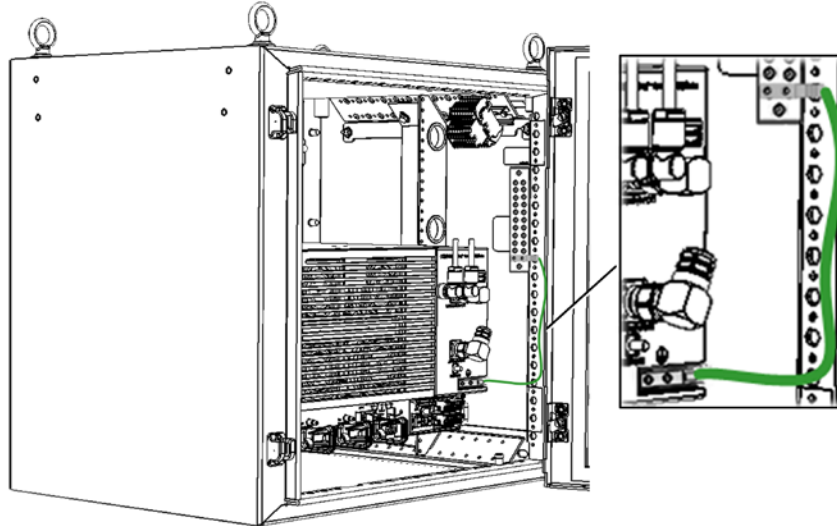

Figure 4-17. Grounding MRU to Cabinet
- Using one of the grounding cables provided with the cabinet, ground the MRU chassis via the two-hole, standard barrel grounding lug located on the front panel to one of the cabinet grounding bolts. Refer to Figure 4-17.